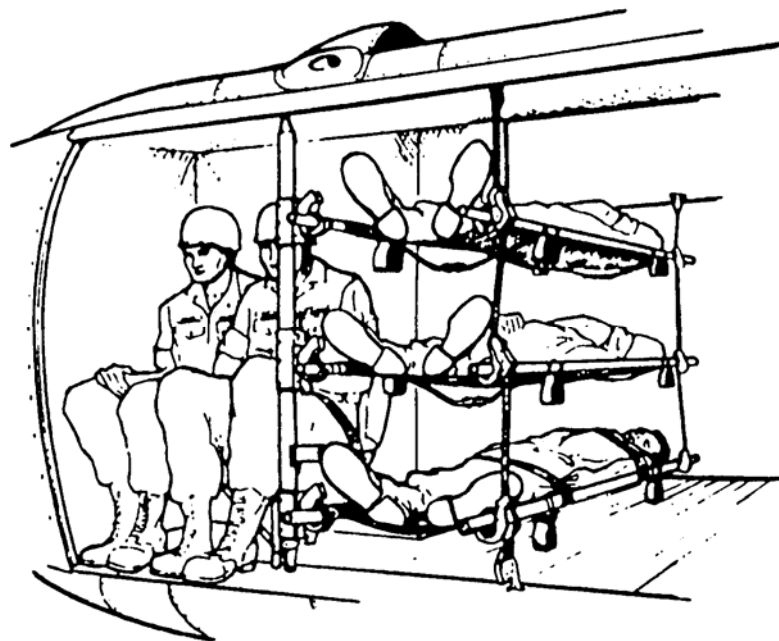

Figure 5-10. Iroquois air ambulance with a mixed load.
(5) The rear bearers and crewmen raise and position the litter until the litter handles are even with the litter support brackets.
(6) The crewmen or front bearers place the litter handles near the casualty's head in the litter support brackets and make sure the handles are locked in place. At the same time, the bearers at the rear of the litter place their handles in the litter support brackets near the casualty's feet and make sure the handles are locked in place.
(7) The bearers/crewmen secure all four handles with the litter retaining straps found near each bracket.
(8) The bearers leave the helicopter as a unit and obtain the next litter to be loaded.
(9) The middle litter is loaded using the same procedures.
(10) The lowest litter is loaded using the same procedures.
(11) The bearers assist the ambulatory casualties to their seats (two on each side near the front of the compartment) and make sure the ambulatory casualties are secured to the aircraft. Figure 5-10 shows a Huey air ambulance with a mixed load.
(12) The cargo compartment doors are closed and secured (usually done by crew members).